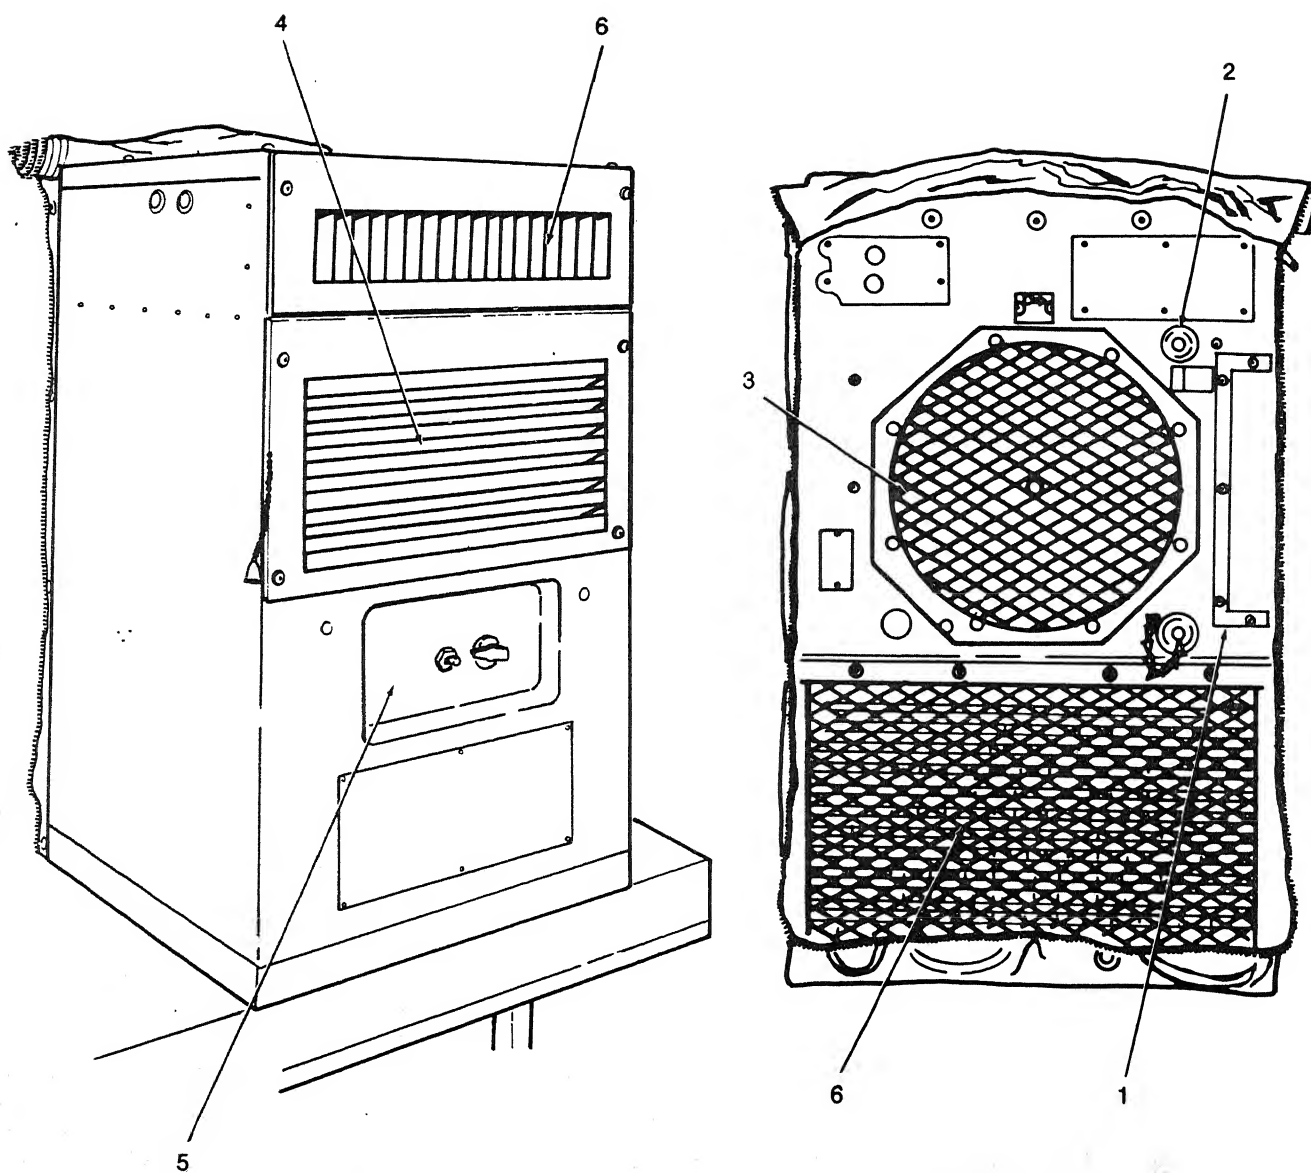

Figure 4-3. Preventive Maintenance Checks and Services (PMCS)
- a. Perform quarterly preventive maintenance services (fig. 4-3).